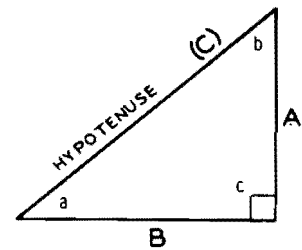

Figure A6
14. (see Figure A6) With this formula, you can calculate the length of the hypotenuse if you know the lengths of the other two sides. For example, if side A = 3 inches and side B = 4 inches, what is the length of the hypotenuse? The solution is given below:
16. (C) The hypotenuse is usually called C although there are no set rules about this. For all of the examples given here, Figure A6 applies. The hypotenuse is called C.